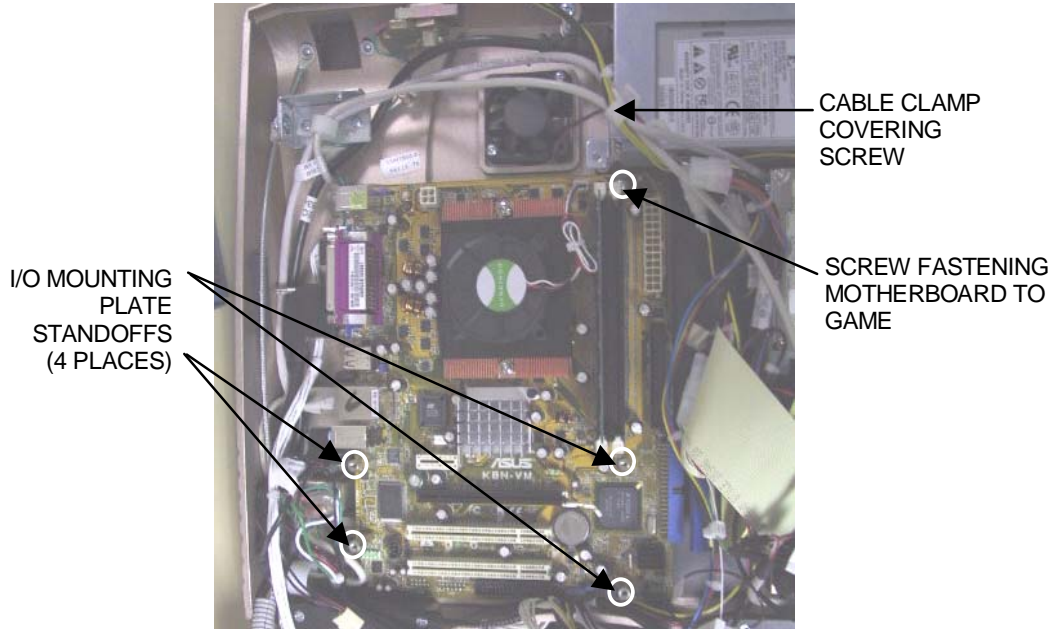
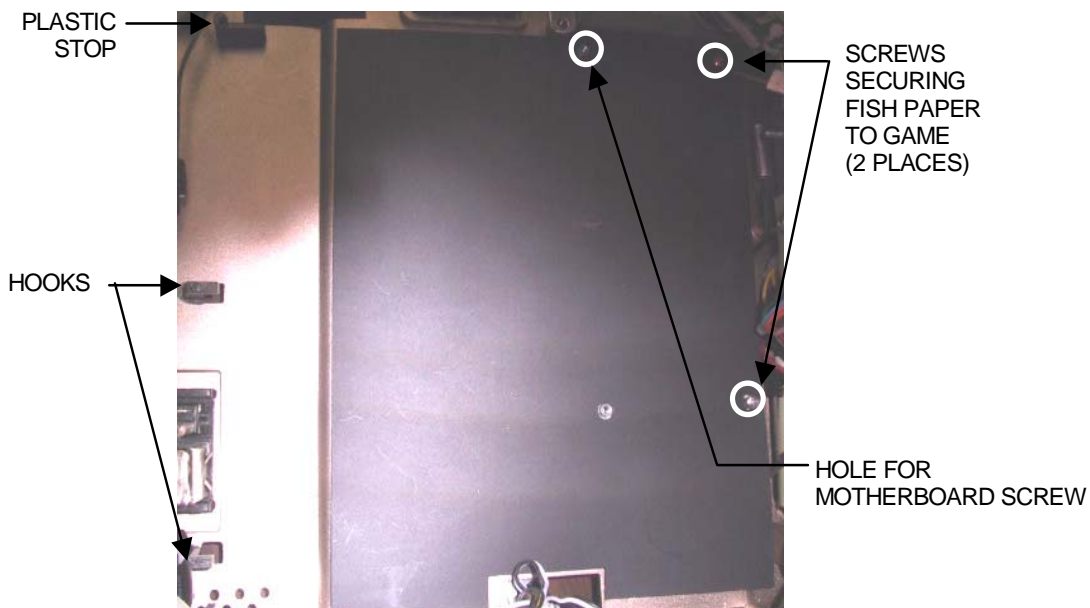

FIGURE 8 - ASUS MOTHERBOARD ASSEMBLY (4 STANDOFFS & 1 SCREW)
FIGURE 9 - FISH PAPER AND PLASTIC STOPS
7. *If your I/O mounting plate was secured by 4 screws:* Remove the screw securing the cable clamp to the power supply bracket. Remove the screw securing the motherboard assembly to the game, located on the right side of the motherboard (Figure 8).
1. Replace the I/O mounting plate's 4 metal standoffs on the motherboard, and secure with hex nuts. (If your game originally had 3 standoffs supporting the I/O plate, then use the extra standoff that was shipped with your replacement motherboard.) See Figure 8. Situate the motherboard on top of the fish paper, then shift the board to the left until it touches the plastic stops. Lock the board underneath the 2 stops that are shaped like hooks. See Figure 9.
2. Secure the motherboard to the game with one screw, and reconnect all connections. See Figure 8.